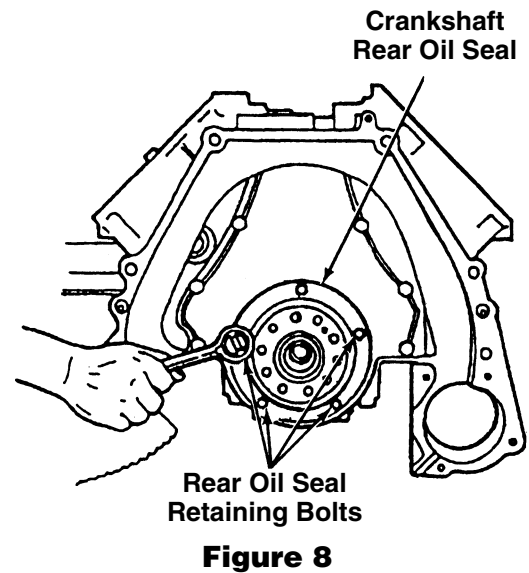

Figure 8
- Align the bolt holes in the seal with the bolt holes in the engine block. Install and torque the five bolts according to OE specifications. See Fig. 8.